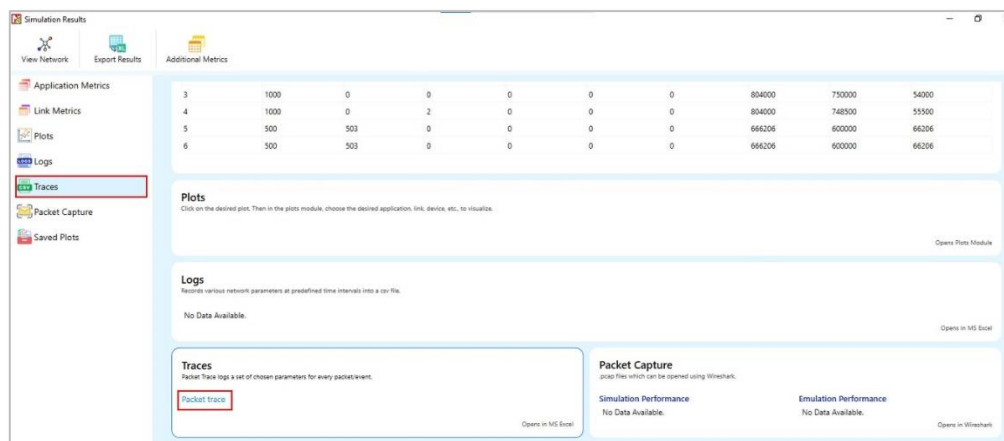

Figure 8-70: Select Event Trace option in results window.
3. Open event trace from the simulation results windows as shown in the below Figure 8-70.